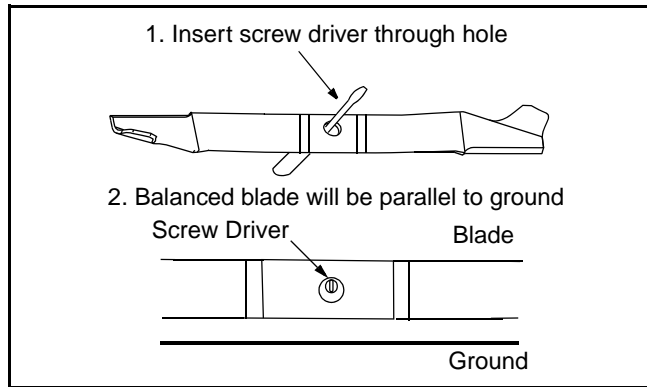

Figure 15
- Test the blade by balancing it on a round shaft screwdriver or a blade balancer as shown in Figure 15.